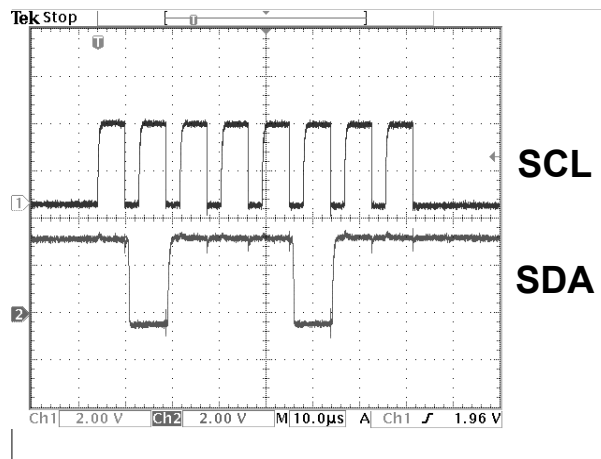

**Figure 26. Slave Address + READ**
Figure 26 shows the Slave Address (0xA0) + READ (1) being sent from the Master to the Slave. During the last SCK cycle, the Slave ACK's the transfer and prepares to drive the bus during the next 8 SCK cycles.